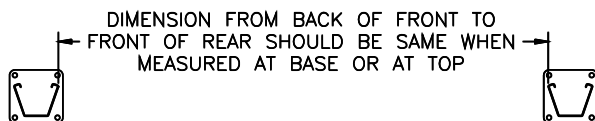

Fig 7 – Column Parallel Measurements
- 11) Plumb both columns. Using a level, check both side-to-side and front to rear. Use shims provided or steel 3/4" flat washers to plumb. Tighten the anchor bolts and recheck for plumb. Adjust if necessary. Check the dimension from the back of the front column to the front of the rear column at the base plate and again at the top of the column, **Fig 7**. When the columns are parallel, these dimensions will match. Adjust front column shims to make columns parallel.